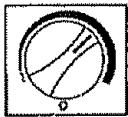

Fig.15
- When maximum cooling is achieved, turn back the temperature control knob setting to the 2 o'clock position on the graduated blue control dial. See fig.15.